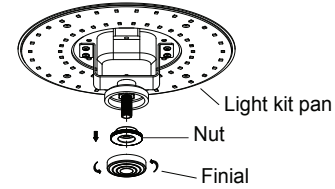

Fig. 18
**Step 1.** Remove the finial, and nut from the threaded nipple of the light kit fixture assembly. (Fig. 18)